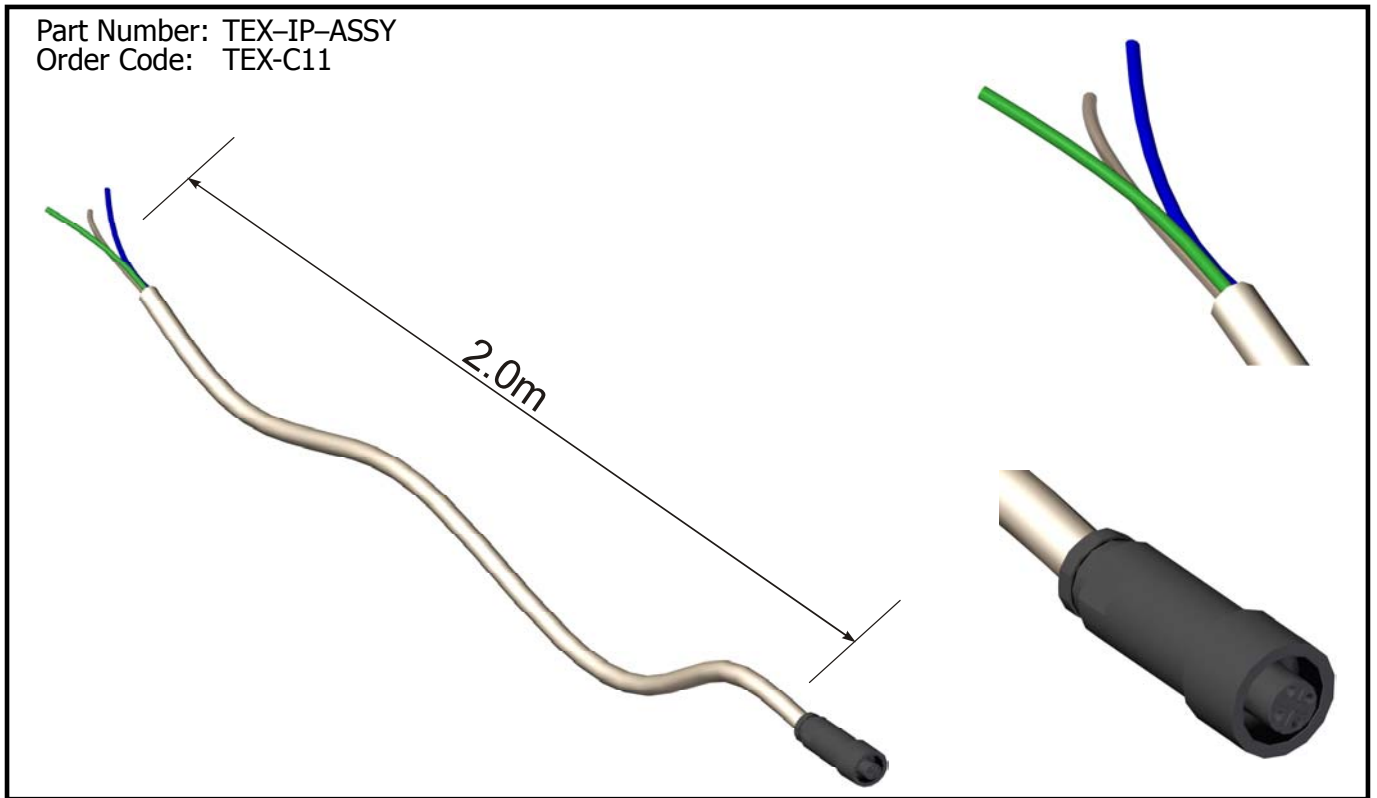
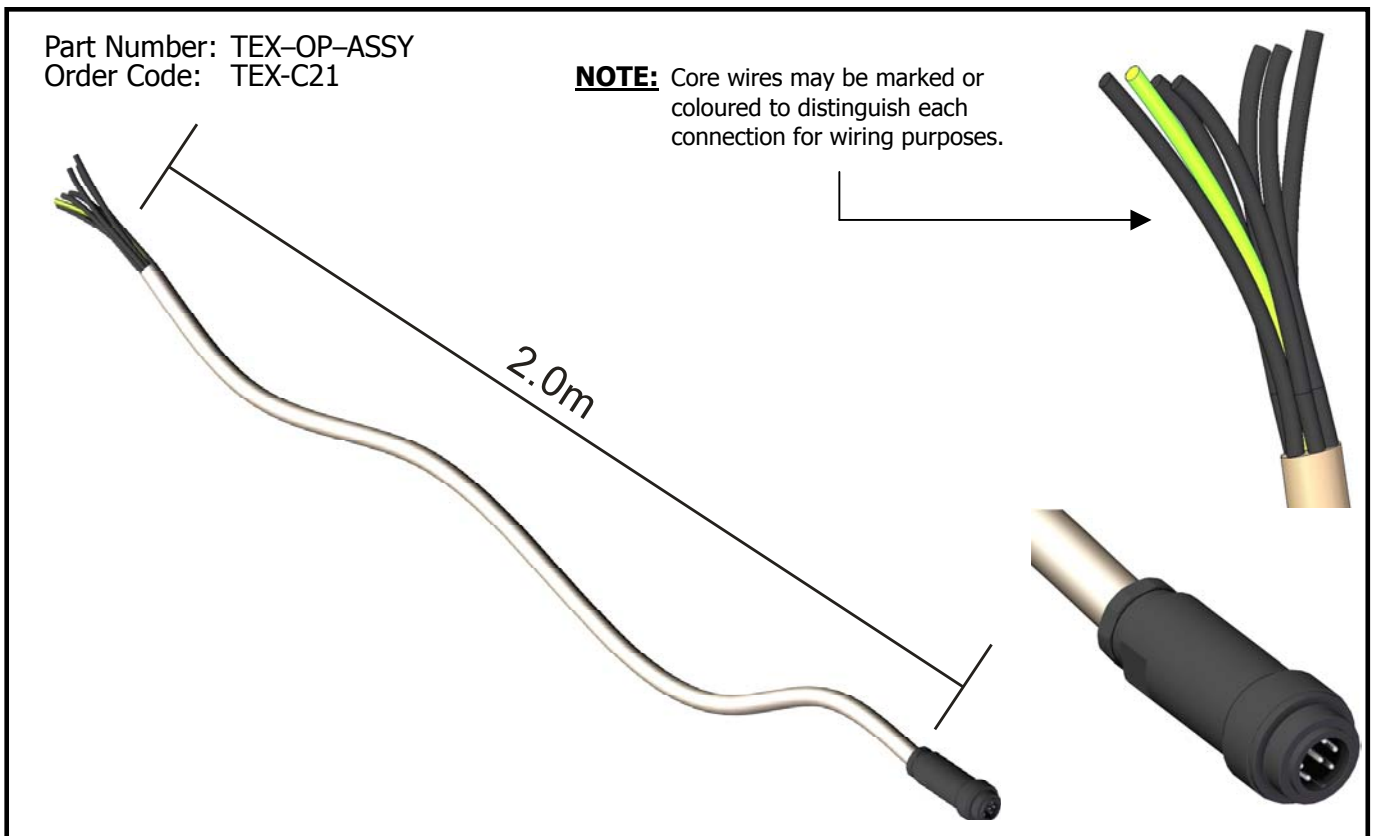

Fig. 2
Fig. 3
Connectors on the user side: (see Fig. 2 & Fig. 3)	Input Cable Assembly: See Fig.2 (Tracopower P/N: TEX-IP-ASSY) Input Connector: Binder Circular Connector Series 693: 99-4222-14-04 Output Cable Assembly: See Fig.3 (Tracopower P/N: TEX-OP-ASSY) Output Connector: Binder Circular Connector Series 693: 99-4225-160-07
- User-side connector/Cable assemblies shown in *Fig.2 & Fig.3* on page 3.